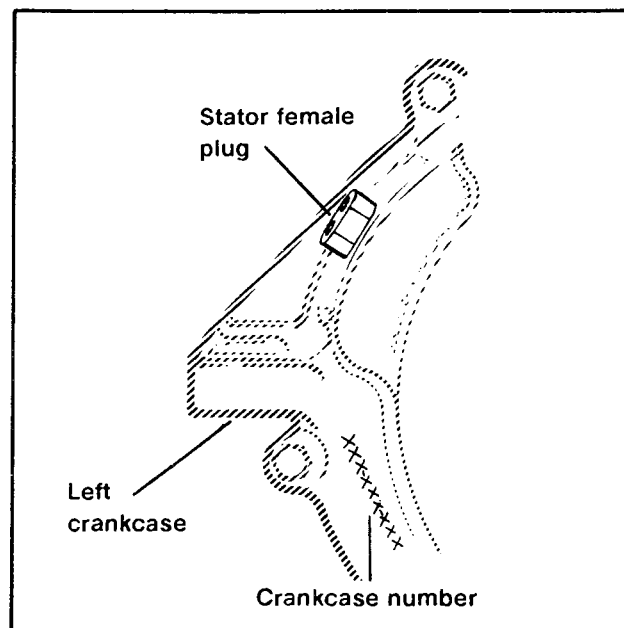

Figure 1. New Stator Plug
1. See Figure 1. With regulator male plug disconnected, the new stator female plug extends above the left crankcase surface as shown. This plug is below the crankcase surface on the old system. The center-to-center distance of the plug terminals and their diameter has been increased—this prevents connecting an old regulator to a new stator or a new regulator to an old stator.